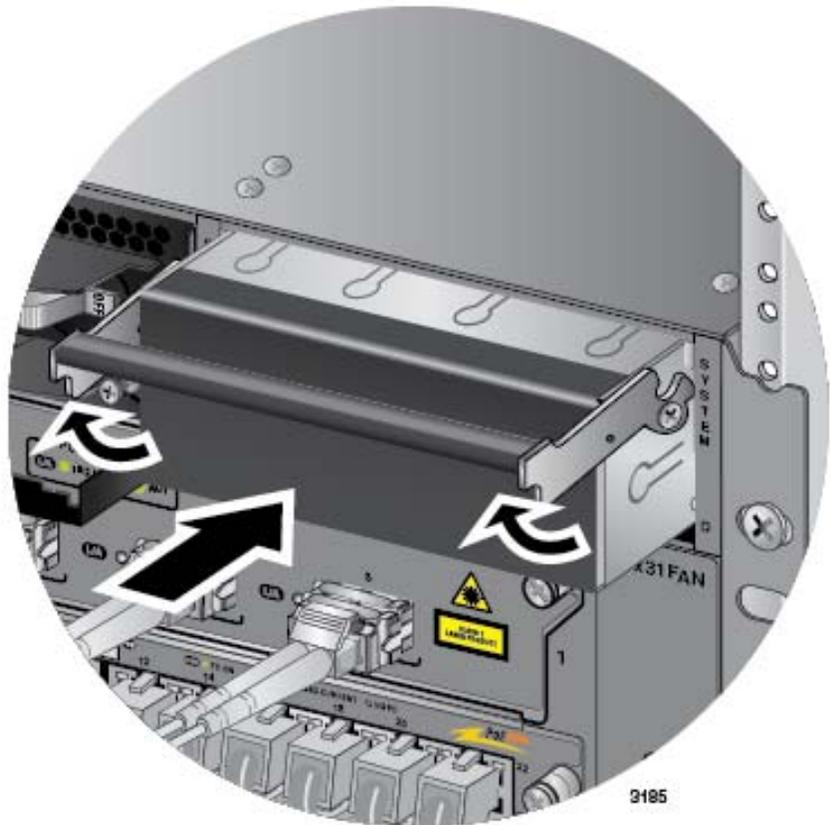

Figure 159. Installing a Blank Power Supply Slot Cover
13. Place the locking handle on the slot cover in the up position and slide the cover into the empty power supply slot. Refer to Figure 159 on page 248.